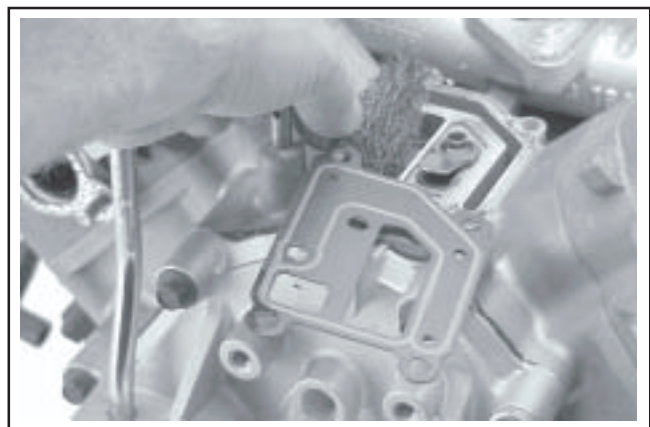

Figure 9-27. Removing the Breather Gasket and Filter.
3. Remove the breather gasket and fiber filter from the breather chamber. See Figure 9-27.